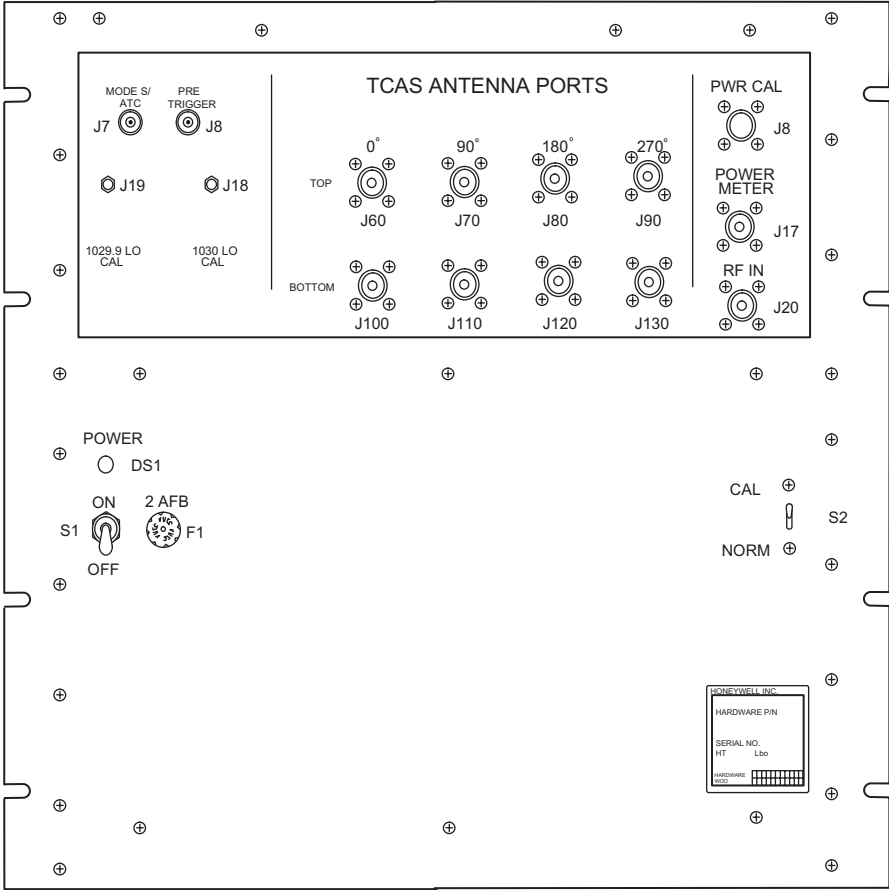

Figure 8. RF Interface Unit
* RF interface unit - Part No. T336254 (see figure 8)